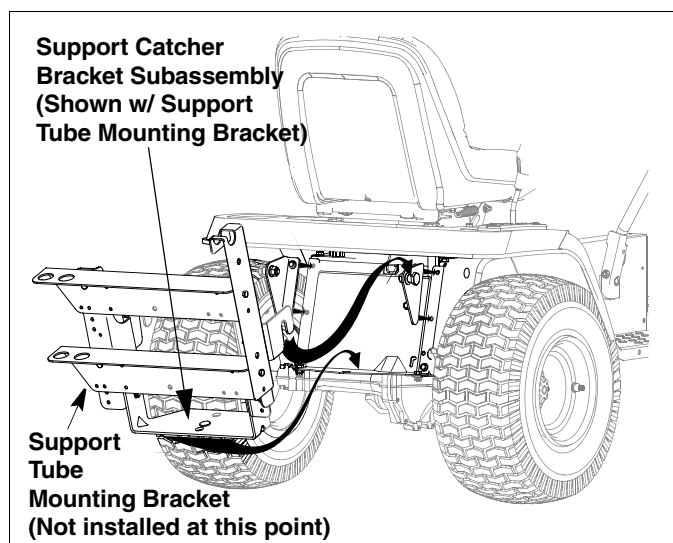

Figure 5
- Position the hooked ends of the Support Catcher Bracket Subassembly to the outside of the Catcher Support Brackets and over the shoulder bolts on both sides as shown in Figure 5.